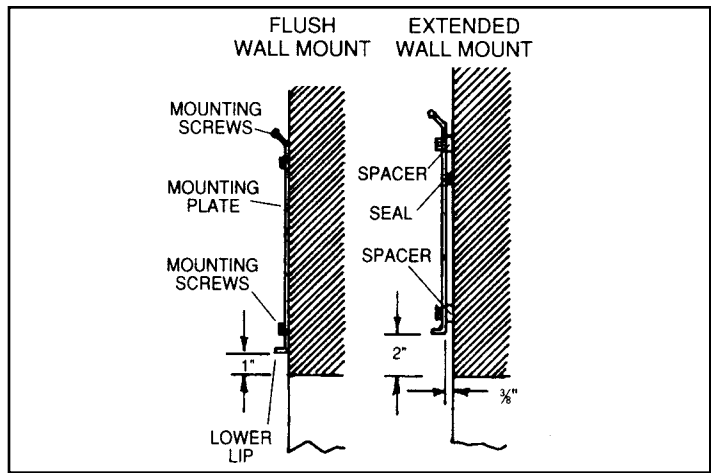

Figure 3
2. The lower lip of the mounting plate should be no more than 1" above the door opening when the unit is mounted flush to the wall. If the air door must be mounted higher, it must be spaced out from the wall  $\frac{3}{8}$ " for every inch the unit is above the door opening. For the best performance, any void between the air door and the wall must be sealed (use foam, plastics or a similar packing). **See Figure 3.**